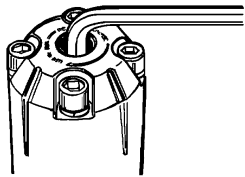

FIGURE 4
- To **INCREASE** outlet pressure, turn the (6) adjusting screw **CLOCKWISE** (see figure 4).
- To **DECREASE** outlet pressure, turn the (6) adjusting screw **COUNTERCLOCKWISE** (see figure 4).